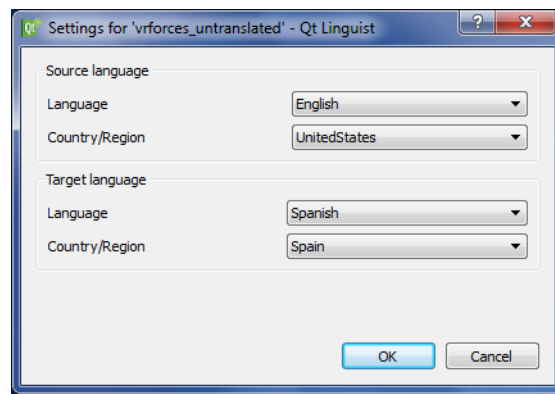

Figure 1-4. Linguist settings dialog box
2. In the Qt Linguist window, choose **File** → **Open**. Select the file *.translations/product\_untranslated.ts*. The Settings for filename dialog box opens (Figure 1-4).